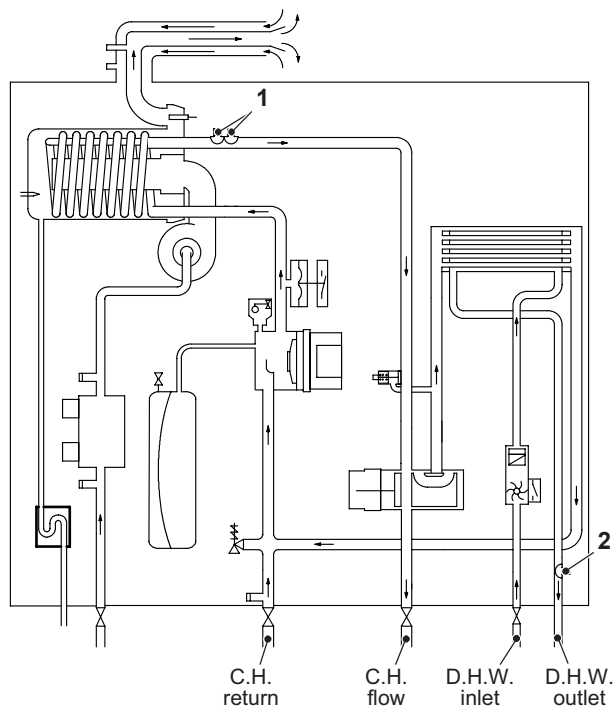
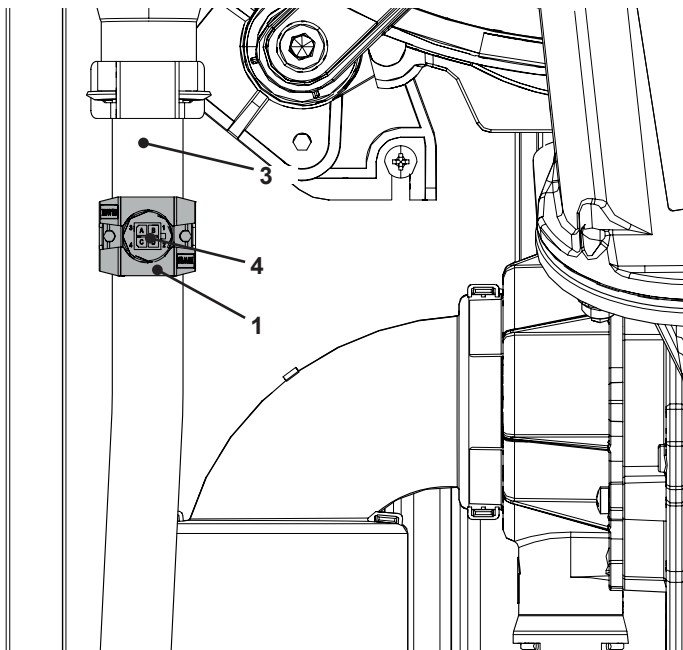
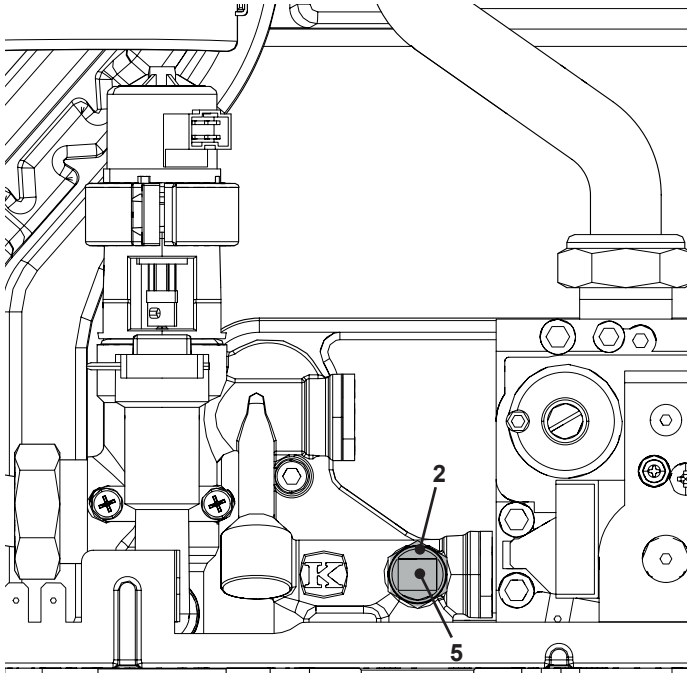

Figure 15.2
Figure 15.3
Figure 15.4
On the boiler there are two temperature probes. One on the output of the primary condensing heat exchanger (NTC heating delivery probe - NTC maximum temperature) "1" in Figure 15.2 and Figure 15.3 and one on the output of the D.H.W. heat exchanger (D.H.W. temperature probe NTC) "2" in Figure 15.2 and Figure 15.4.
- 2 Remove the electric connector "4" and the NTC probe "1" (Figure 15.3).
- 3 Remove the electric connector "5" (Figure 15.4)